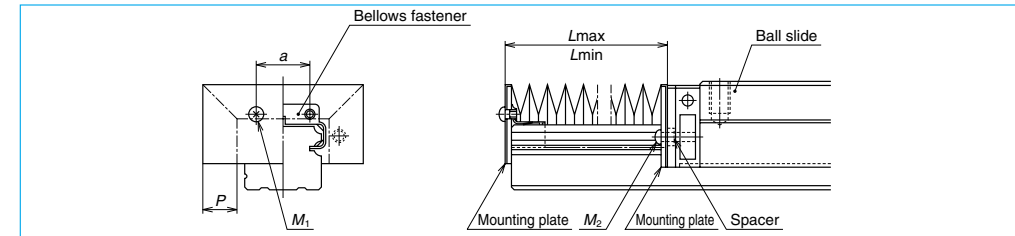

Fig. II-5•9
- Remove two machine screws (M2) which secure the end seals to the end of the ball slide (Fig. II-5•9).
- To install bellows for LH Series and LS Series, lightly knock a fastener exclusively for bellows to the end of the rail (Fig. II-5•10). Then secure the mounting plate at the end of the bellows through the tap hole of the fastener.